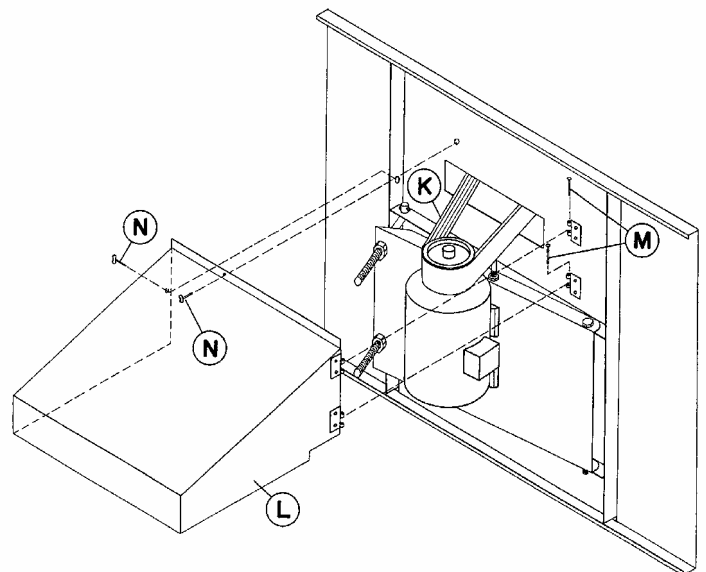

Figure 16 - Motor Guard and Powerband Belt Installation
7. Install Powerband belt **K** (Figure 16) around fan sheave and otor sheave. Tighten belt by adjusting nuts on "J" bolts. Do not over tighten the belts. The center of the belt should deflect approximately 19 mm with moderate hand pressure.
10. To install Motor Guard **L**, match up hinges and install hinge pins **M**. (See Figure 16.)
11. Close Motor Guard and install (2) wing bolts **N**.